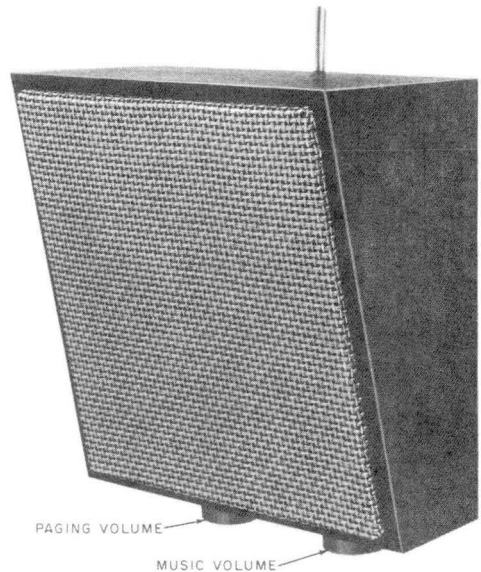

Fig. 22—109A Loudspeaker Set
(1) Ask the customer to connect his paging system to screw terminals A1 and A2. If his paging system is not available, connect the red and green leads of a 107A loudspeaker to A1 and A2, respectively. Connect the yellow and brown leads of the 107A to a 2012B power transformer.
(2) At any telephone set, depress an idle IC button. Depress and hold the DSS button that corresponds to the paging system. If background music is provided, it will be muted. If an external relay was used, it will operate. Speak into the transmitter and have the customer adjust the volume of his paging system to the desired level. After the adjustment of the paging system volume for speech, the background music level may be varied by adjusting the potentiometer on the 33A voice coupler.
3.22 ♦109A Loudspeaker Set (Fig. 22, 23, 24, and 33)
(c) If background music is provided, adjust the volume control of the 33A voice coupler to mid-range; then adjust the right-hand volume control(s) on the loudspeaker(s) to the desired music level (Fig. 22). The volume control of the 33A voice coupler may be readjusted, if necessary, to raise or lower the overall music level.
- (1) At any telephone set, depress an idle IC button and the DSS button that corresponds to the 109A loudspeaker set (if background music is provided it will be muted). Speak into the transmitter and adjust the volume control to the level desired by the customer (Fig. 22).